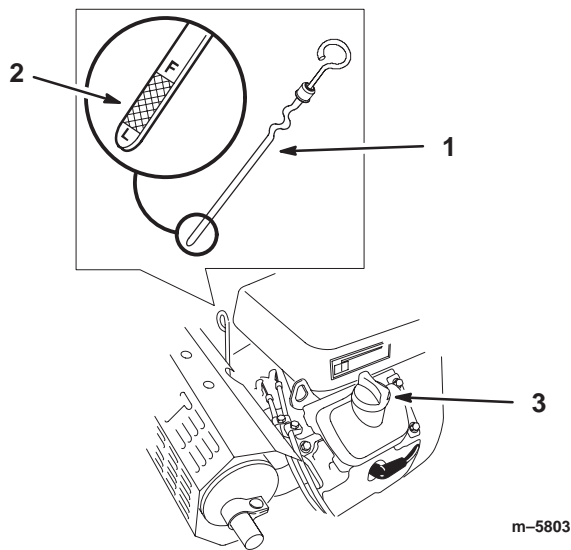

Figure 38
2. Clean around the oil dipstick (Fig. 38) so dirt cannot fall into engine.
3. Pull the oil dipstick and wipe the metal end clean (Fig. 38).
4. Slide the oil dipstick fully into the engine. Pull the dipstick out and look at the metal end (Fig. 38). If oil level is low, slowly pour only enough oil into the filler tube to raise the level to the full mark.
7. Slowly pour approximately 80% of the specified oil into the filler cap (Fig. 38). Refer to Servicing the Engine Oil, page 31.